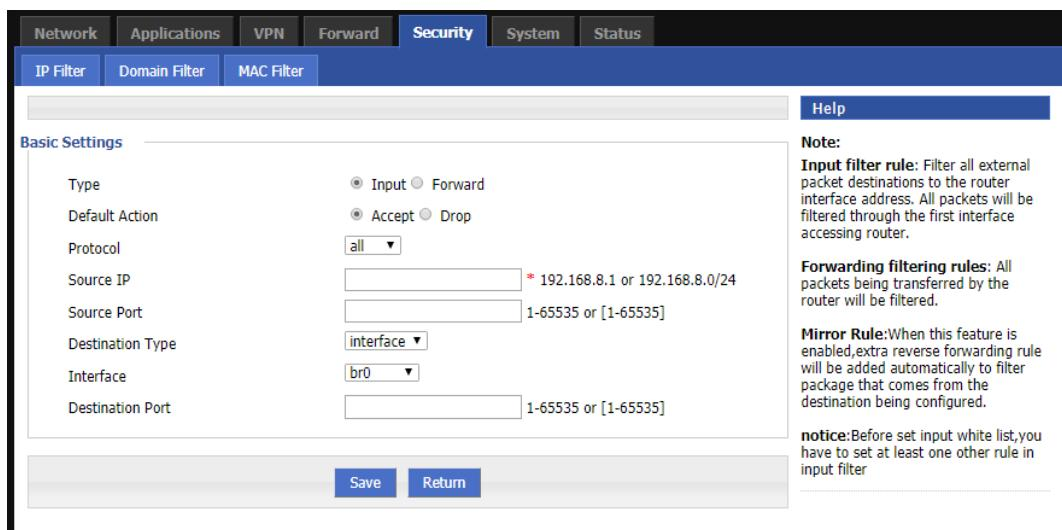
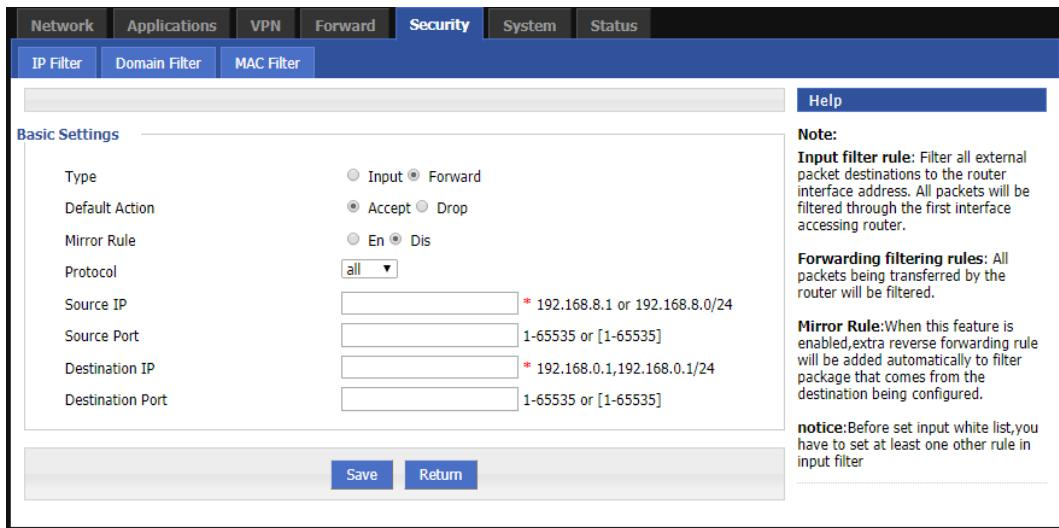

Figure 5-28 Enter filter rules page
Figure 5-29 Forward filter rules page
Step 3 : To add a new task management rule, click Add to enter the task management rule settings interface, as shown in Figure 5-29.
Step 3 : Click Add to add a new IP filtering rule to configure IP filtering parameters. There are two types of filtering for IP filtering: Input and Forward, and the rules configuration page is shown in Figure 5-28 and Figure 5-29.